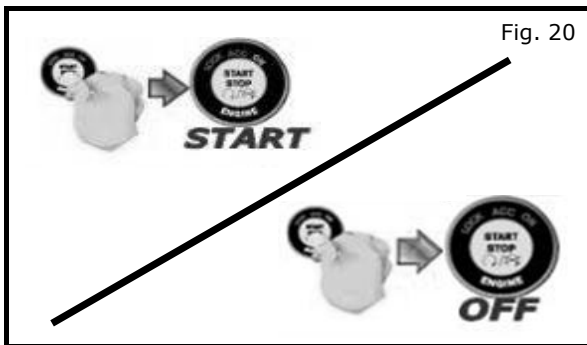

Fig. 20
- a) Press and hold push button Ignition switch while depressing brake, to confirm vehicle starts as shown in Fig. 20.
- b) Press push button Ignition switch and turn ignition switch to OFF position as shown in Fig. 20.